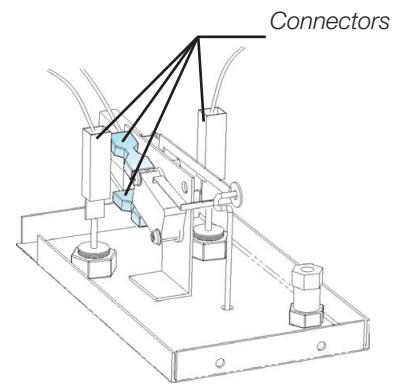

Fig. 1.1
2. Unplug the lid's connectors (fig. 1.1) and the valves (fig. 1.2).